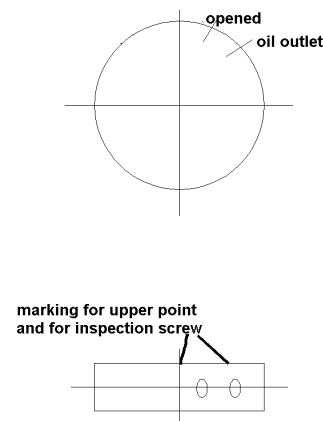

Figure 2
On the CYCLO DRIVE centrifugal reducer pin ring, there are both two (2) inspection screws at 180° to each other and two (2) markings (X). Turn the reducer until the separate marking (X) is at the top (see Figure 2). To fill the reducer, open the two screws at the top. Fill with lubricating oil through the top opening until lubricating oil comes out of the second opening. Once the reducer has been successfully filled, the inspection screws must be screwed in again tightly with new oil seals (see parts list).
To check the oil level, turn the reducer until the separate marking (X) is at the top (see Figure 2). The inspection screw at the top to the side is unscrewed. The oil level is correct if oil flows out when reducer is rotated slightly in the direction of the opened screw. Once the reducer has been successfully filled, the inspection screw must be screwed in again tightly with a new oil seal.